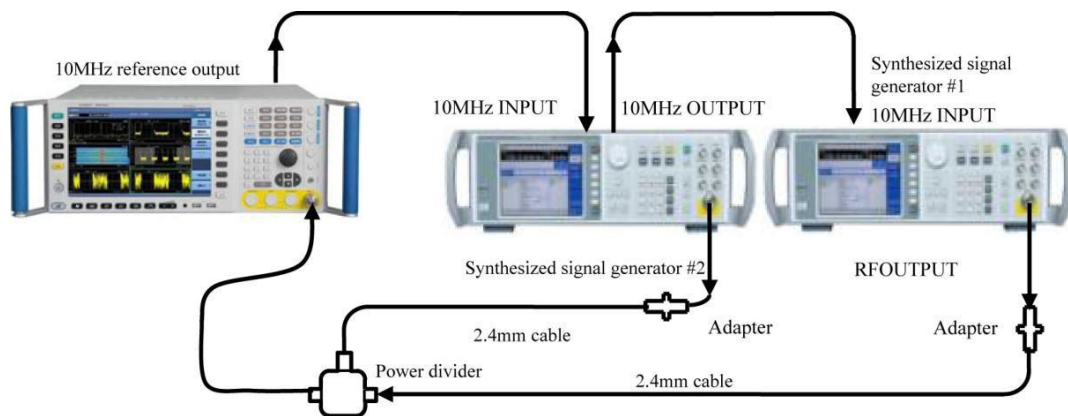

Fig. 8.6 Schematic diagram of maximum analysis bandwidth test
1) Connect the tested instrument as shown in Fig. 8.6 and reset the S3503 analyzer.